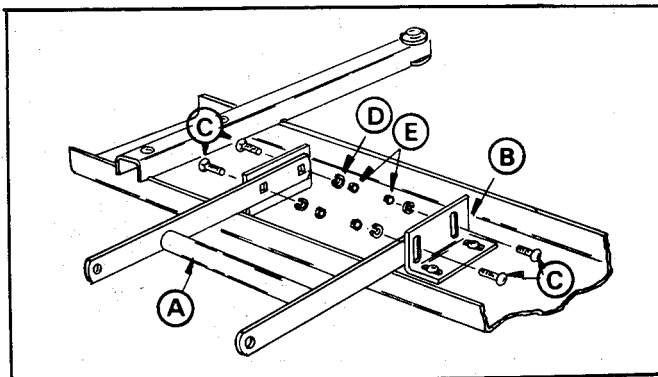

FIGURE 5.
FIG. 5. Mount the main frame (A) to the inside of the tray bracket (B). Secure with four 5/16" x 1" carriage bolts (C), lock washers (D), and hex nuts (E). Tighten all bolts securely.